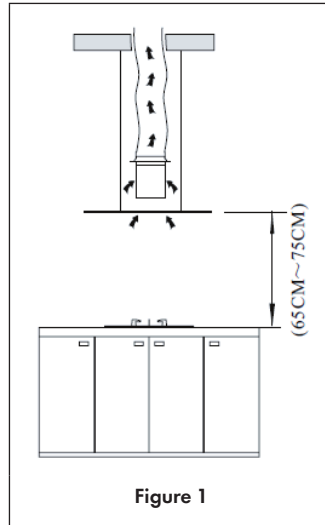

Figure 1
2. The cooker hood should be placed at a distance of 65~75 cm above the cooking plane for best effect (see figure 1).